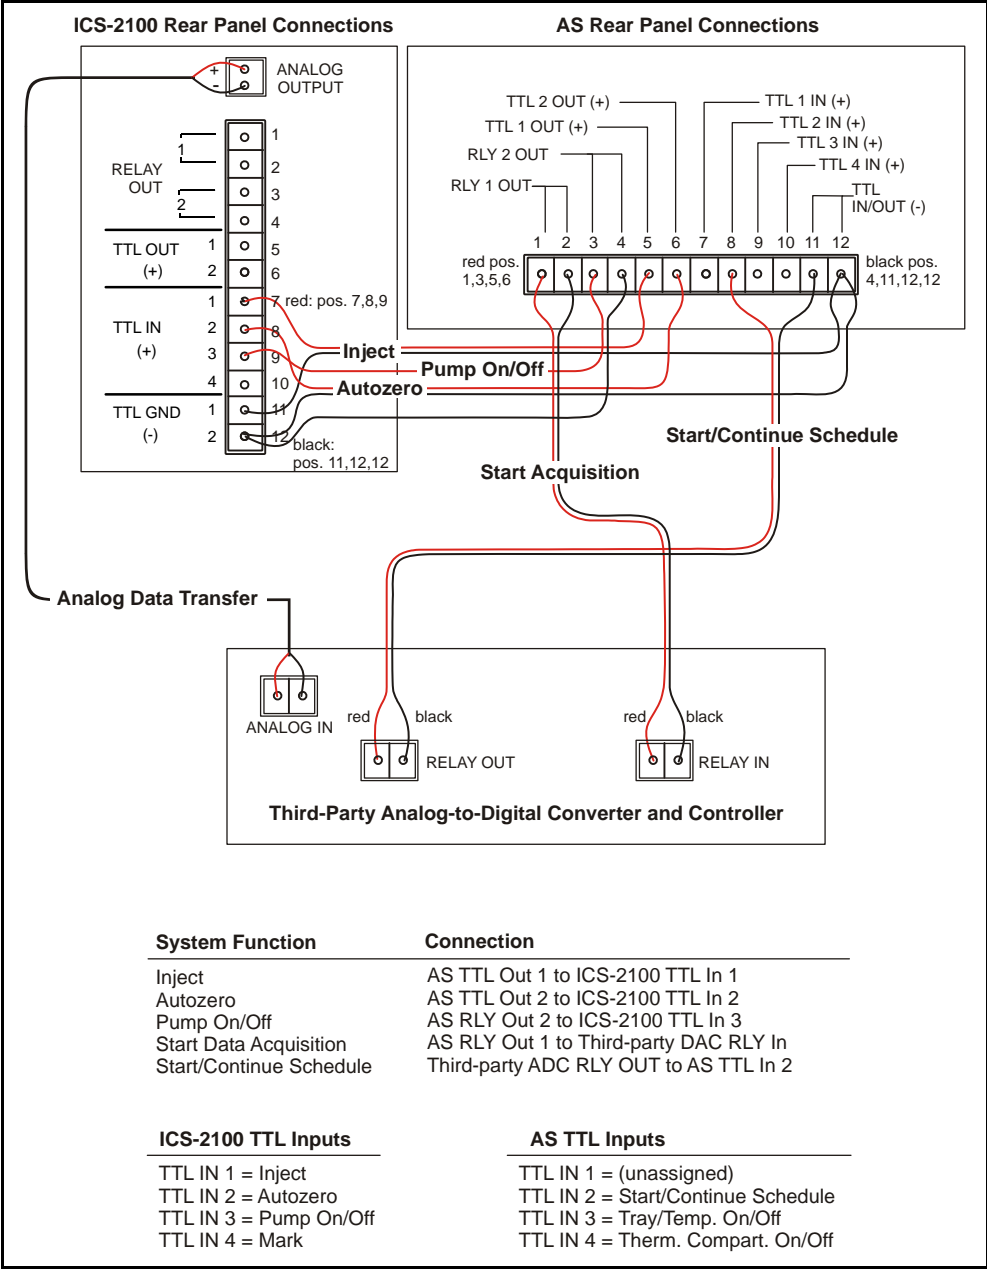

Figure C-6. Example Connections for Stand-Alone Operation
2. Attach the wires to the connector plug positions indicated in Figure C-6.
- 2. Connect the analog input connector on the third-party controller to the **ANALOG OUTPUT** connector on the Dionex ICS-2100 rear panel (see Figure C-6).
Figure C-10 is an example of Dionex AS method timed events that can be used with the TTL/Relay connections shown in Figure C-6.